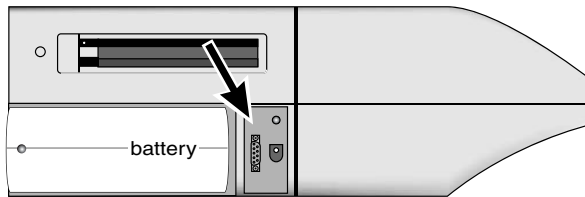

Figure 6-18. Modem port
- Turn off FRED® and connect either the modem or the null modem cable to the modem port (Figure 6-18).